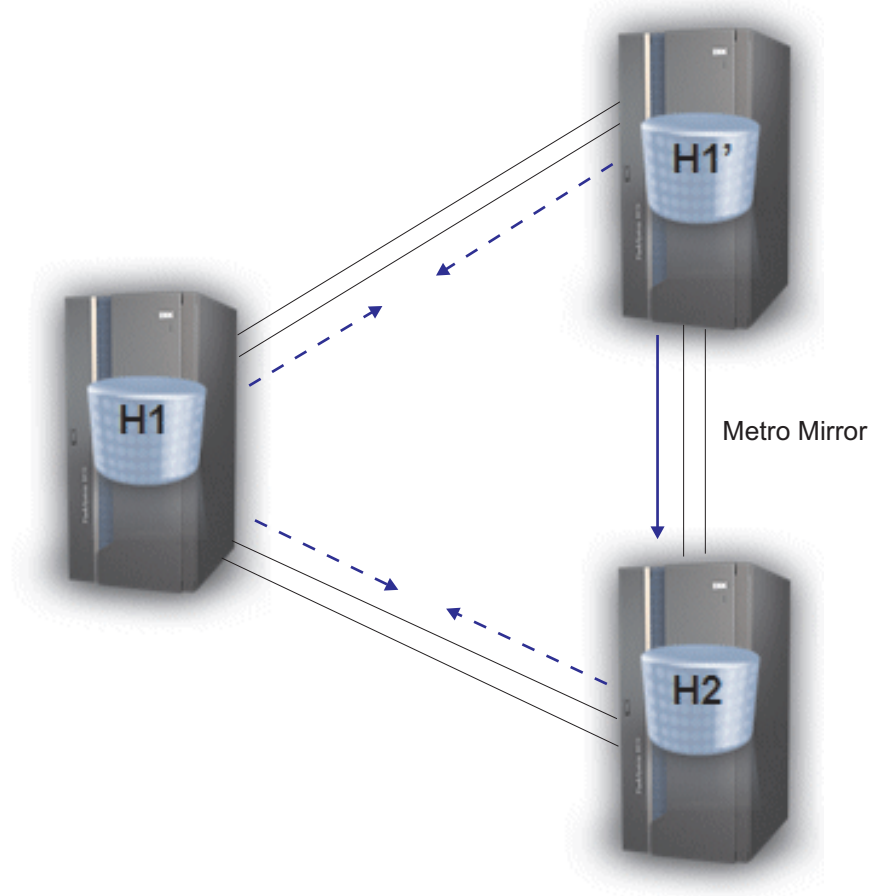

Figure 33. Configuration after Resuming H1' -> H2
5. Resume H1' -> H2 using incremental resynchronization. Figure 33 on page 379 shows the result.